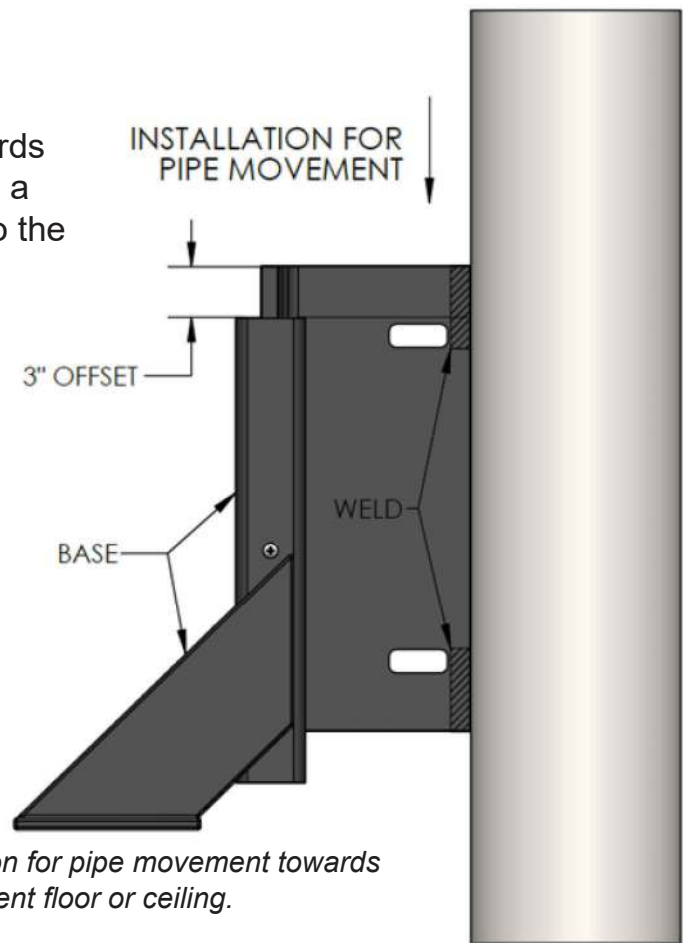
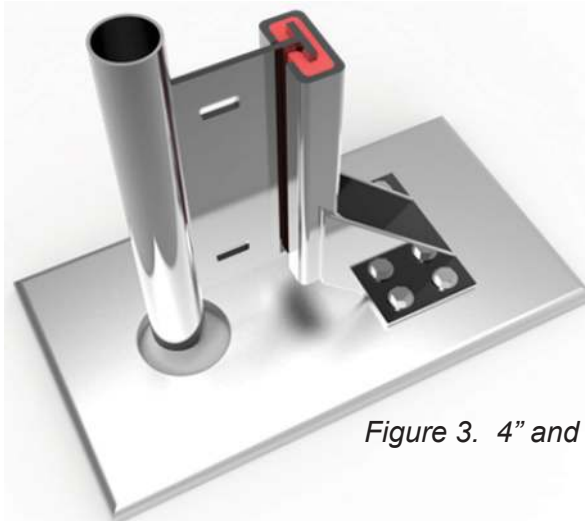

Figure 2. Installation for pipe movement towards base plate attachment floor or ceiling.
Figure 3. 4" and Smaller Installation Detail
1. The PGQ Quiet Riser Guide is designed to be installed individually on riser piping up to 4” diameter, See Figure 2. For sizes 5” through 10” diameter two PGQs are installed per location, see Figure 3. For 12” and larger, consult Metraflex
b. For installations with pipe movement towards the base plate the T-Slide must be installed with a 3" offset away from the base plate attachment to the floor or ceiling as shown in Figure 2.
6. For pipe sizes 4" and smaller, one PGQ is required per location, see Figure 3 below.